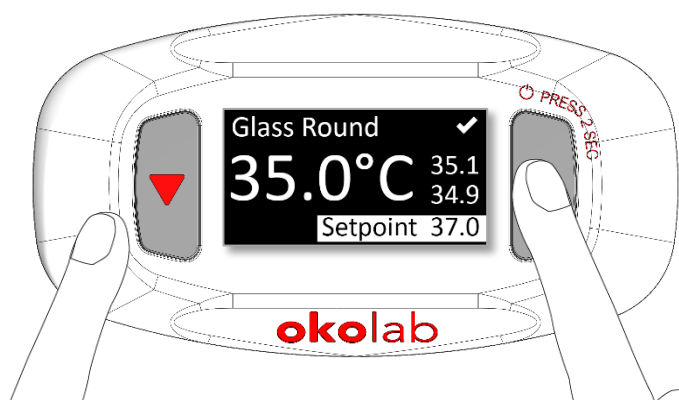

Figure 9. Input of the Setpoint value.
2. Press again the UP or DOWN button to increase (as indicated in Figure 9) or decrease the Setpoint value.